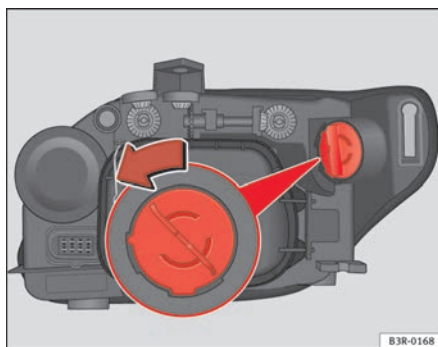

Fig. 190 Turn signal bulb
- Turn the bulb holder anti-clockwise, pulling it by the grip ⇒ fig. 190 and removing the bulb holder and the bulb.